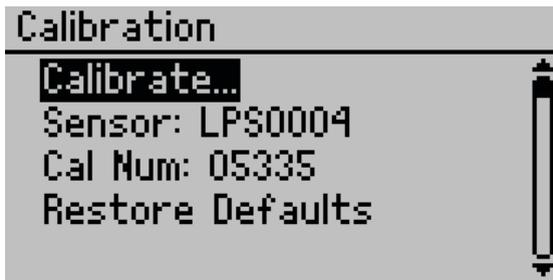

Figure 45 Calibration screen options
- The Calibration screen will appear (Figure 45).